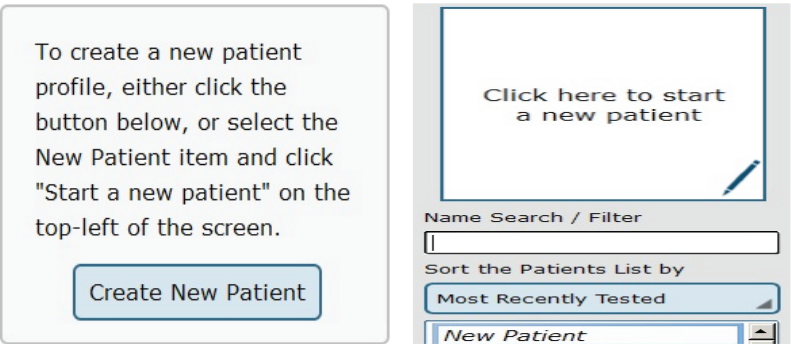

Figure 19: Creating New Patients.
- 1. Click on the New Patient button in the center of the screen immediately after logging into the system and arriving at the clinician home screen, or select New Patient from the patient list and then click on the Click here to Start a New Patient square (located in the upper left corner of the screen, typically where the patient profile image is located). Both options are shown in Figure 19.